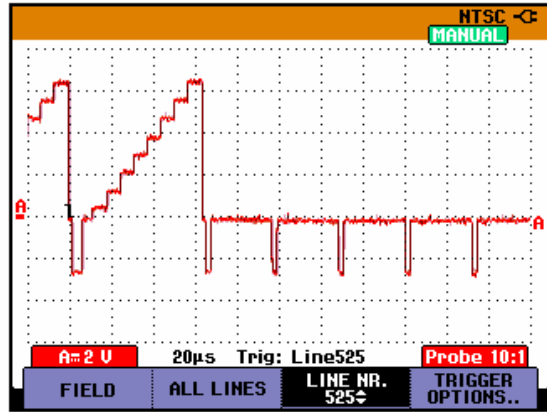

Figure 4-10. Trace for NTSC line 525
- ⇒ 525 for NTSC, see Figure 4-10.